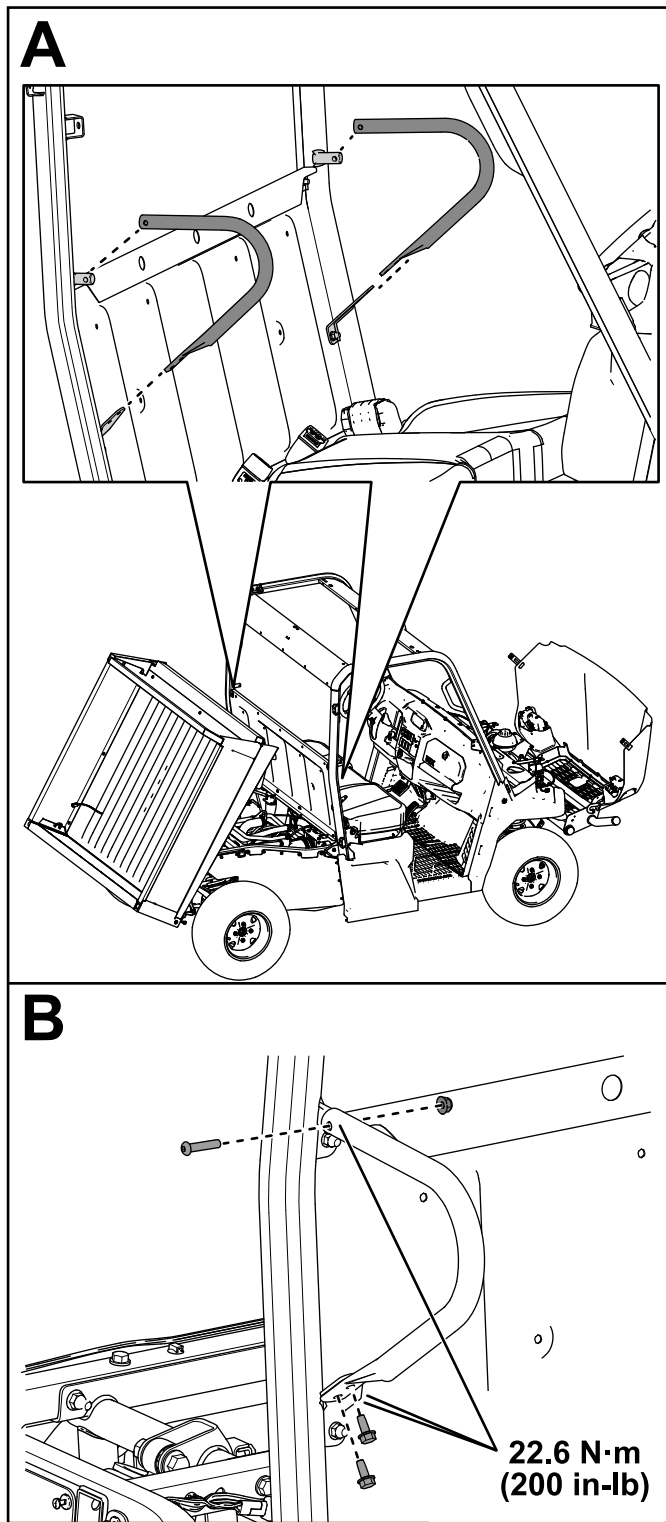

Figure 21
16. Secure the 2 shoulder restraints to the rear roll bar assemblies using 4 self-tapping screws (5/16 x 3/4 inch), 2 button-head bolts (5/16 x 1-1/2 inches), 2 button-head bolts (5/16 x 1-1/2 inches), and 2 locknuts (5/16 inch) as shown in Figure 21.
Torque the locknuts (5/16 inch) to 22.6 N·m (200 in-lb) as shown in Figure 21.